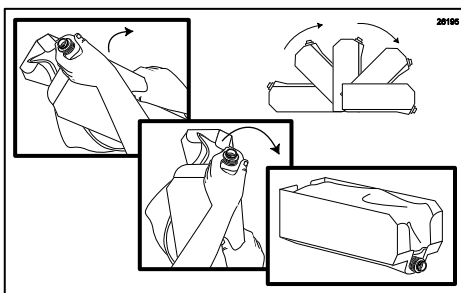

Figure 45
8. Holding the fitment in place, raise the open end of the tray and flip the tray right side up. As the tray is set back down, allow the bag to settle in the tray. (See Figure 45.)